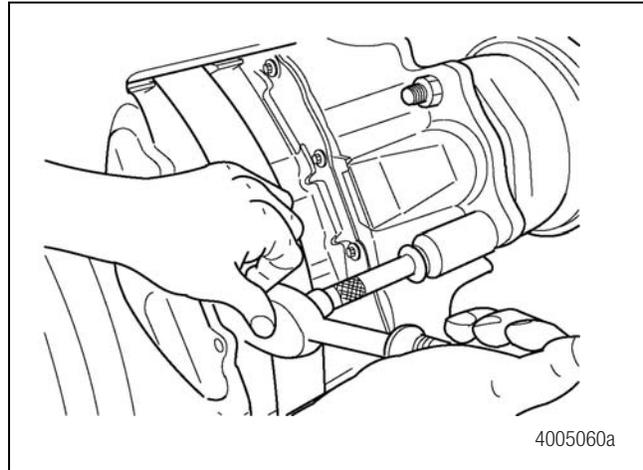

Figure 5.1
1. Cage the spring chambers. Carefully remove the air hoses from the air chamber. Use the correct wrench to remove the air chamber nuts and washers. Figure 5.1. Remove the air chamber assembly from the brake caliper and inspect the air chamber.